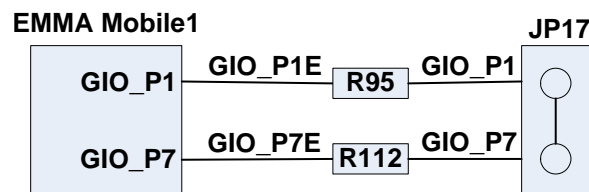

Figure 6-6 The Hardware Connection with Synchronous High Interrupt
(5). In the second waiting the interrupt (the red process), connect the GIO 7 to GIO 1 as figure 6-6.